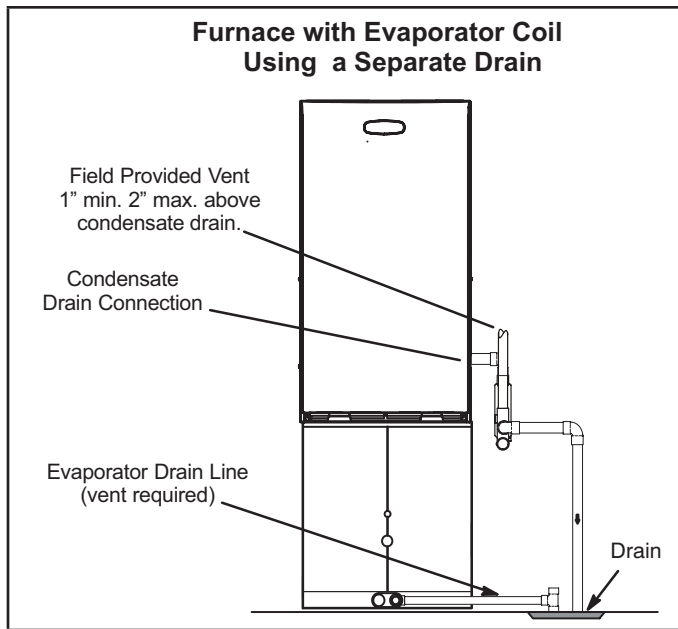
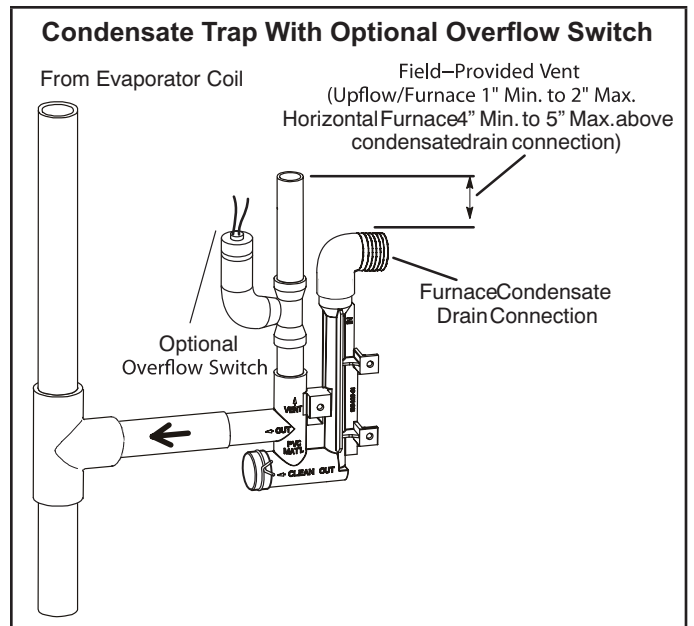

Figure 46
Figure 48
- 5 - Figure 46 shows the furnace and evaporator coil using a separate drain. If necessary, the condensate line from the furnace and evaporator coil can drain together. See Figure 47 and Figure 48. The field provided vent must be a minimum 1" to a maximum 2" length above the condensate drain outlet connection.